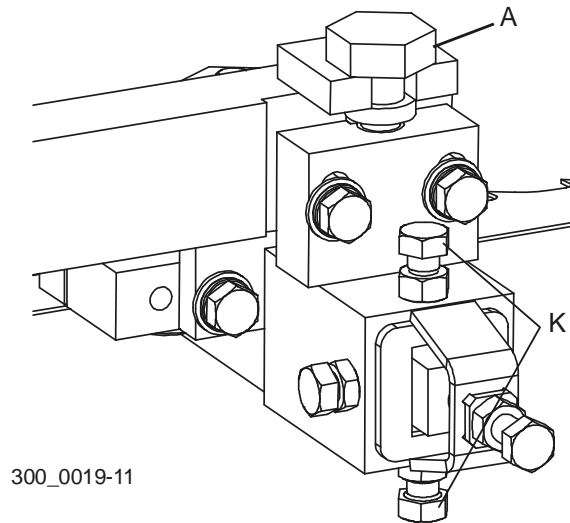

FIG. 5-34
See Figure 5-34. Loosen the jam nuts on bolts (K). Adjust the bolts up to tilt the blade down. Adjust the bolts down to tilt the blade up. Retighten the jam nuts and recheck the